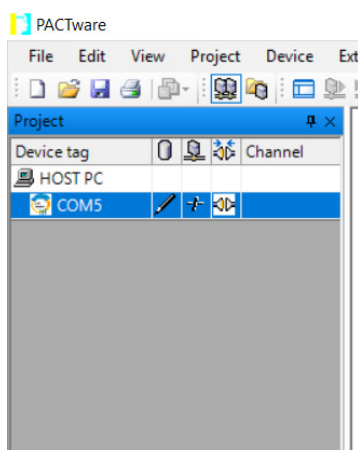
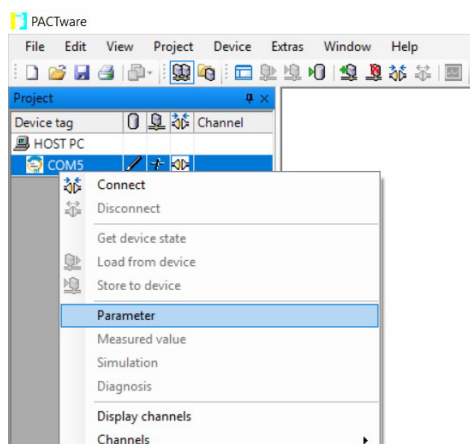

Figure 4: View of COM#
Figure 5: View of Parameter Setting
4. Within the *Project* window, right click on the Communication option, COM#, then select the *Parameter* option as shown in **Figure 4** and **Figure 5**.